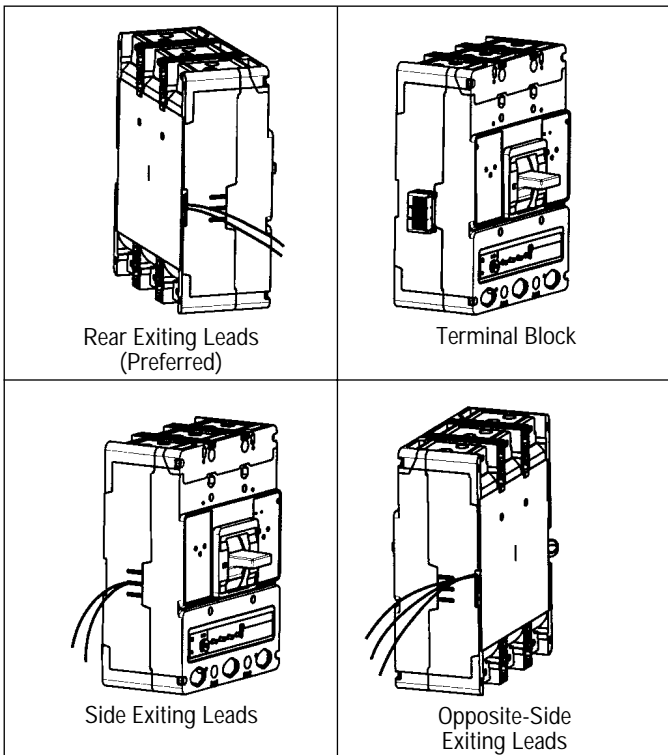

Figure 2-5 Accessory Wiring Options
- 2-9. Route wiring to meet installation requirements (Figure 2-5). If required, complete routing of leads of opposite side through rear wiring trough.